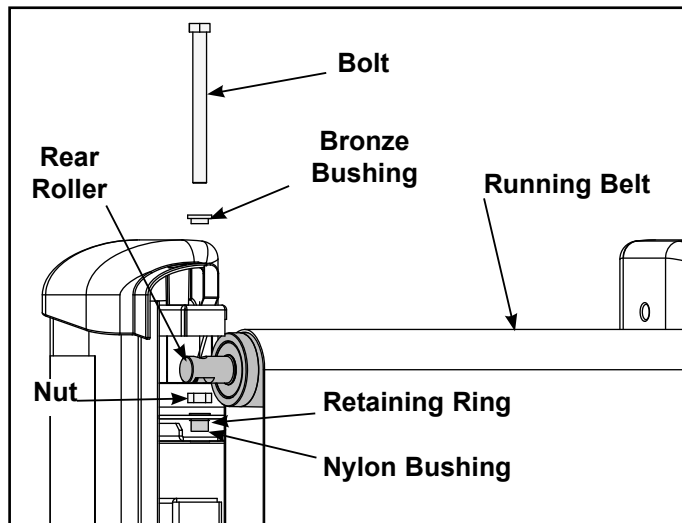

Figure 10
- A. Using a 3/4" socket wrench, remove the two rear roller bolts, bronze bushing and nut (one roller bolt on each side). **NOTE:** Loosen each bolt evenly, making sure not to loosen either bolt too many turns before moving to the other bolt. See Figure 10.
- B. Lift one side of the rear roller and slide the roller out of the running belt. **NOTE:** The nylon bushing and retaining ring will remain in the frame. See Figure 10.